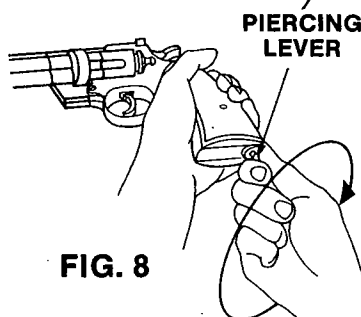

FIG. 8
- C. With thumb and finger, turn piercing lever clockwise to pierce CO₂ Cylinder. (Fig. 8.)